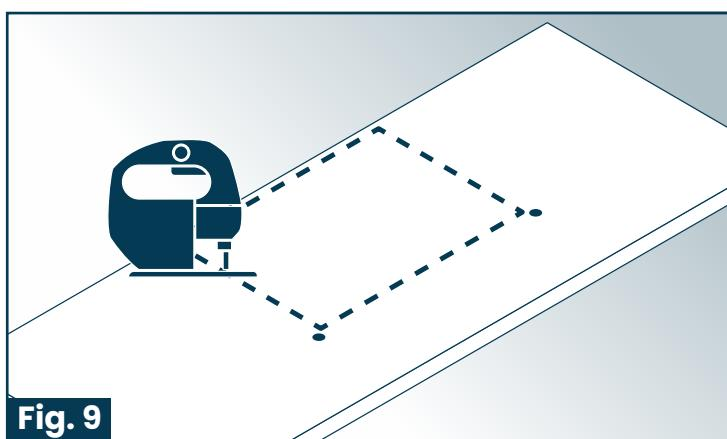

Fig. 9
5. Cut out the opening using a jig saw or similar tool. (Fig. 9)